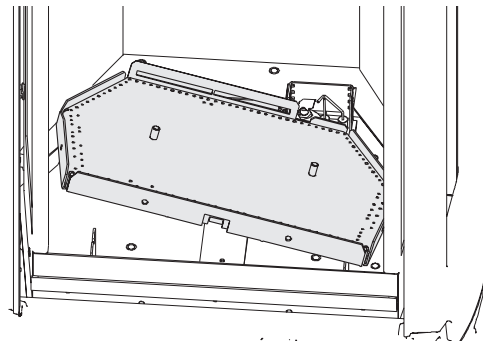

Figure 3. Remove Burner.
4. **Remove the Burner:** Lift the front of the burner base to disengage it from the support brackets and pull it forward off of the burner injector. Then tilt it side-to-side and pull it out through the door opening. Fig. 3.